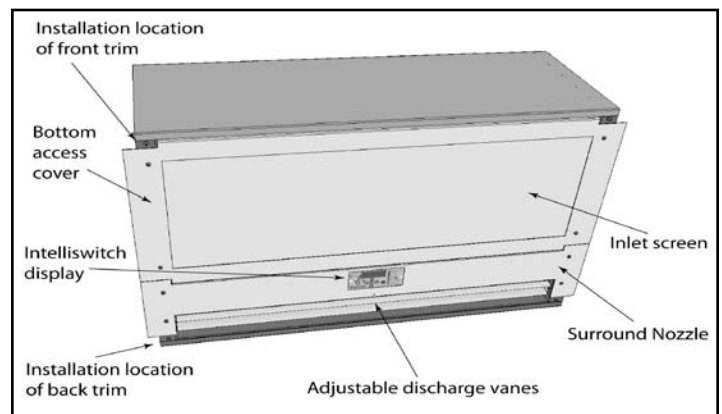

Figure 2
- The unit is shipped without the front and back trim installed to protect it from shipping damage. This trim need not be installed until after the unit is hung. **See Figure 2.**